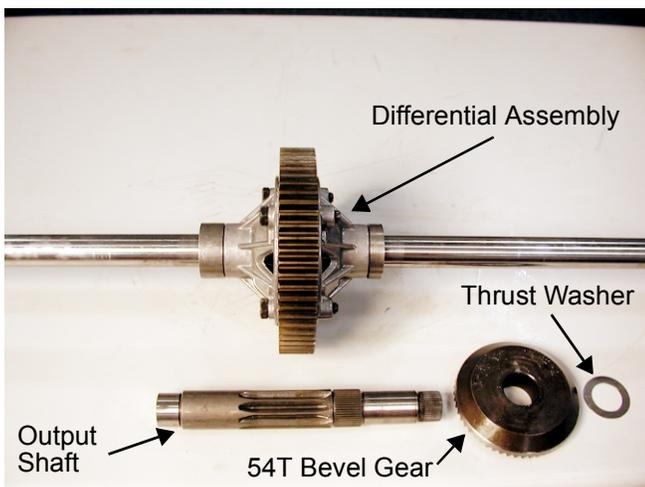

Figure 18
22. Continue removing the differential assembly from the right transmission housing. See Figure 18.